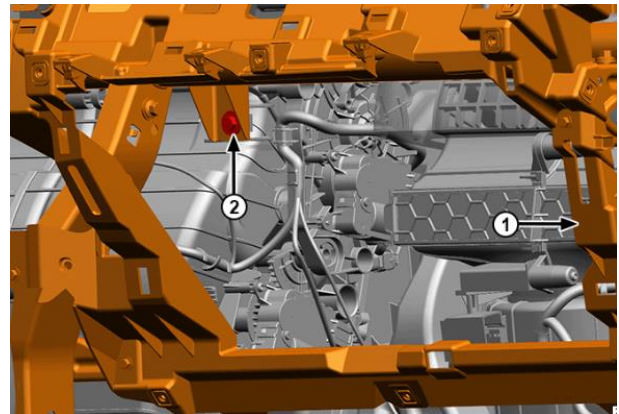

Figure 11 – I/P to HVAC Bolt
25. Remove the instrument panel to HVAC bolt (2) from the glove box opening (Figure 11).
17. Install the instrument panel to HVAC bolt through the glove box opening and tighten to 8 N·m (71 in. lbs.) (Figure 11).